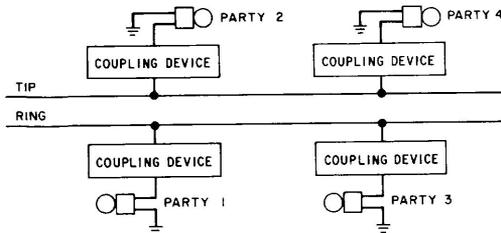

Fig. 3—Four-Party Semiselective Grounded Ringing
3.03 Four-party semiselective ringing (Fig. 3) is accomplished by connecting the ringers of two parties from the ring side of line to ground and the ringers of two other parties from the tip side of line to ground using a coupling device, Table A. Coded ringing is used to differentiate between stations on the same side of line.